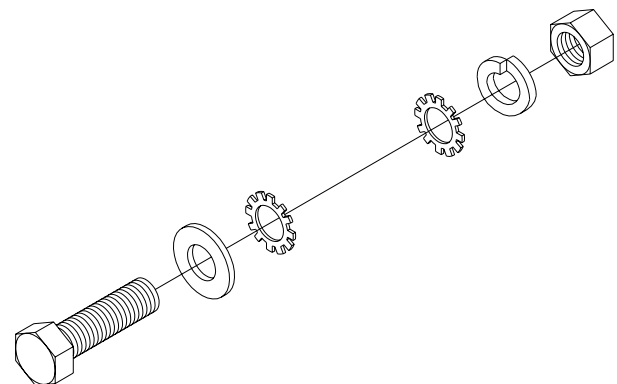

Figure 7.2
- Bolted connections should be assembled per Figure 7.2.